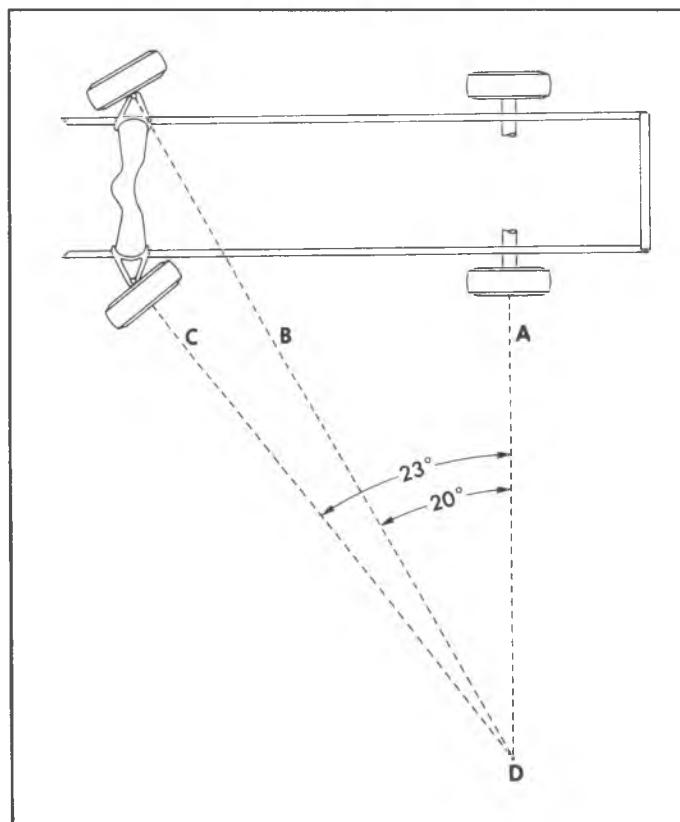

Fig. 16—Toe-out on Turns
## TOE-OUT ON TURNS (Fig. 16)
Note in fig. 16 that the right front wheel centerline (B) and the left front wheel centerline (C) intersect the centerline of the rear axle (A) at the same point (D). The 20° and 23° angles are not necessarily representative of any vehicle and are used here for theory only.